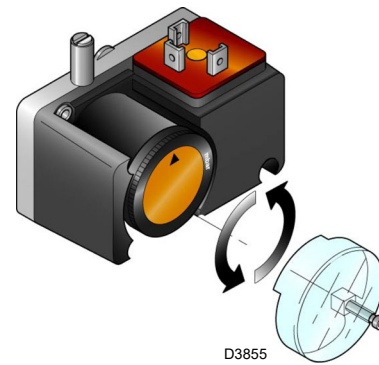

Fig. 31
- Adjust the pressure switch for the valve leak detection control device (PVP Kit)(Fig. 31 at page 32), if present, according to the instructions supplied with the Kit itself.
Adjust the pressure switch for the valve leak detection control device (PVP Kit)(Fig. 31), if present, according to the instructions supplied with the Kit itself.